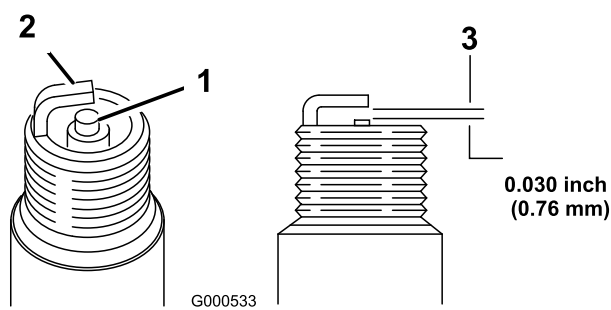

Figure 27
5. Set the gap on the plug to 0.76 mm (0.030 inch); refer to Figure 27.